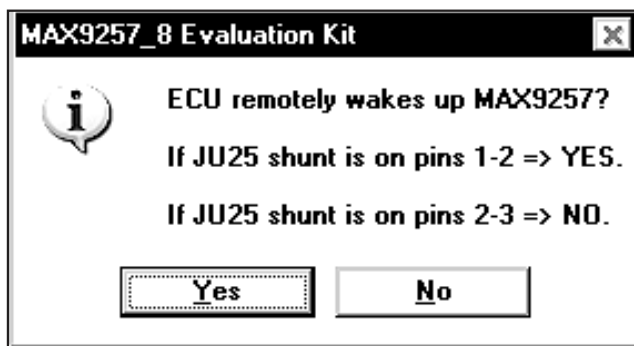

Figure 1. MAX9257/MAX9258 Evaluation Kit Software—MAX9257 REM Status
- 12) Press the **Yes** button on the popup window (Figure 1), which verifies if the ECU remotely wakes up the MAX9257. If the REM pin of the MAX9257 is set to high, the ECU should wake up the MAX9257 by setting the REG08 PD bit to low. If the REM pin of the MAX9257 is set to low, the MAX9257 is powered up when V_{CC} is applied.